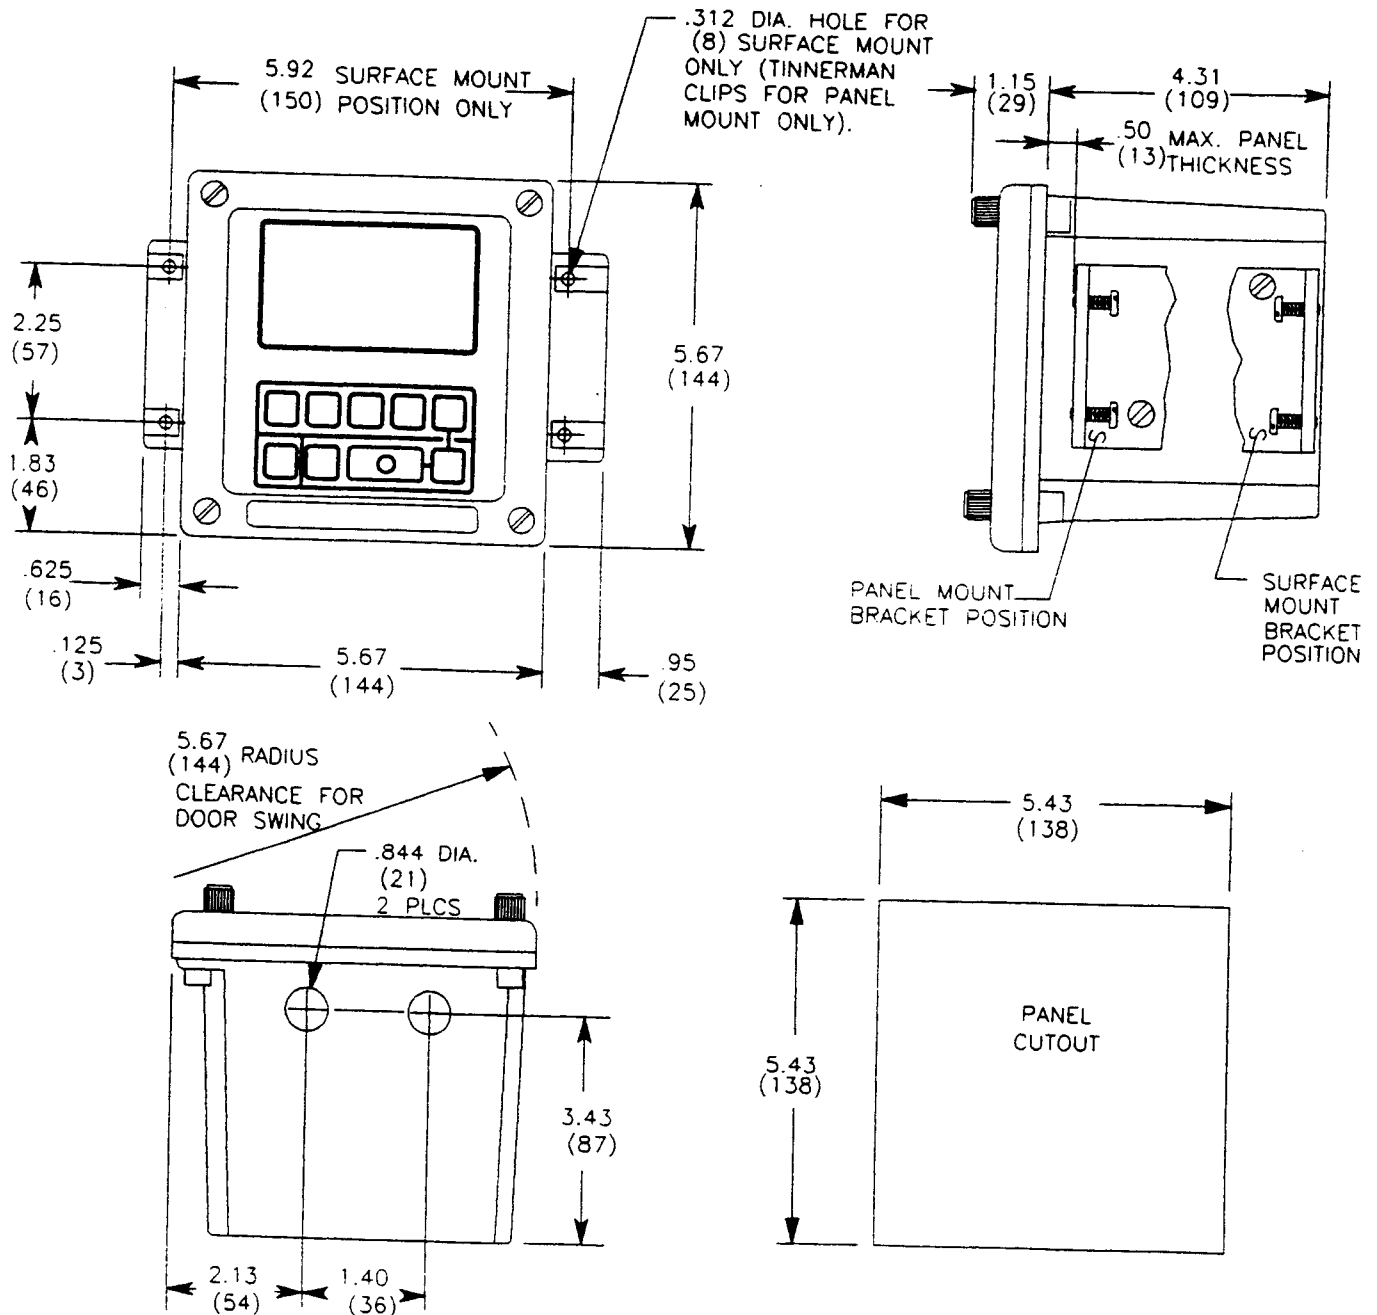
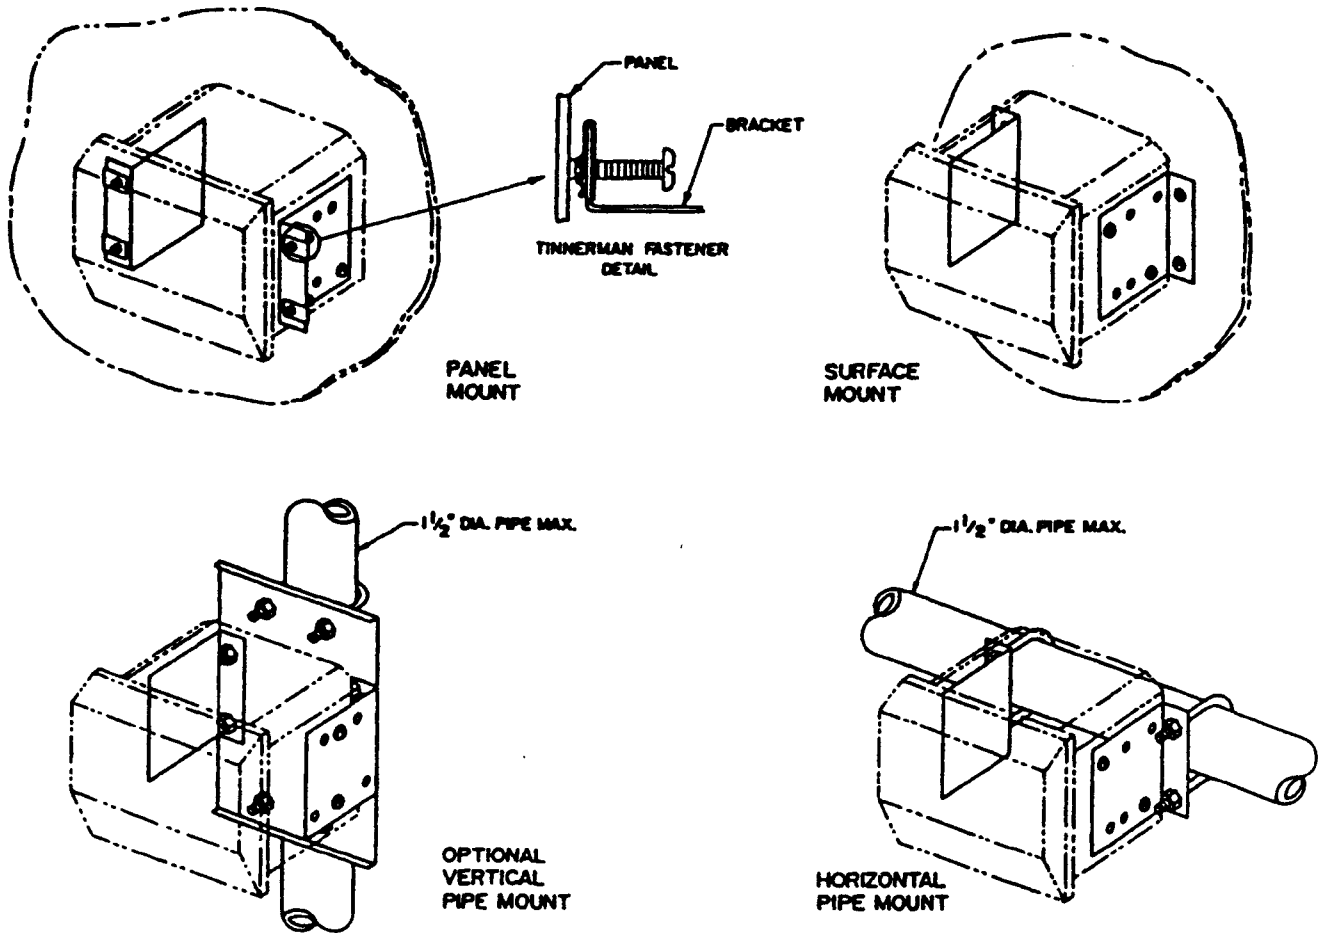

FIGURE 2-1 Enclosure Outline
FIGURE 2-2 Mounting Configurations
Refer to Figure 2-1 for enclosure and mounting dimension details. Figure 2-2 illustrates various mounting configurations. Use the two stainless steel brackets provided to panel, surface or pipe-mount the instrument. The bracket attachment configuration determines the mounting method.
1. Place Tinnerman fasteners on each mounting bracket as shown in Figure 2-2.
NOTE: Use appropriate mounting bracket holes (depicted in Figure 2-2 with screw heads) to properly position brackets.